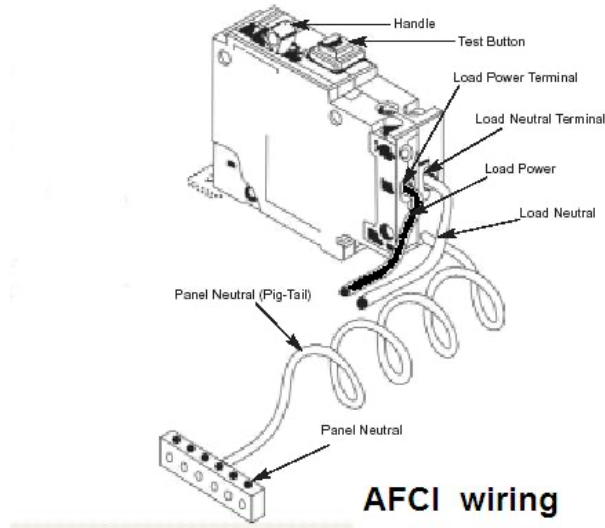

Figure 3.4: Arc Fault Breaker Input Power Wiring
ModelMinder Power Connection with an Arc Fault Breaker (Figure 3.4)
- e. Connect the BLACK power wire from the ModelMinder to the Arc Fault Breaker 'Load Power' terminal [Note: Must be 115VAC only]. (Figure 3.4)
- f. Connect the WHITE (neutral) wire from the ModelMinder to the Arc Fault Breaker 'Load Neutral' terminal. (Figure 3.4)
- g. Connect the coiled white wire from the Arc Fault breaker to the panel neutral bar. (Figure 3.4)